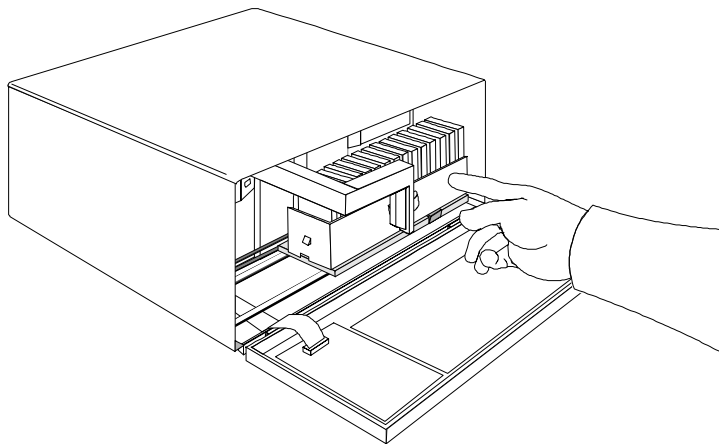

Figure 11. Pushing the Magazine in Place
- ❑ Push the right side of the magazine over the right hand magazine position pin until you hear a click. See Figure 11.